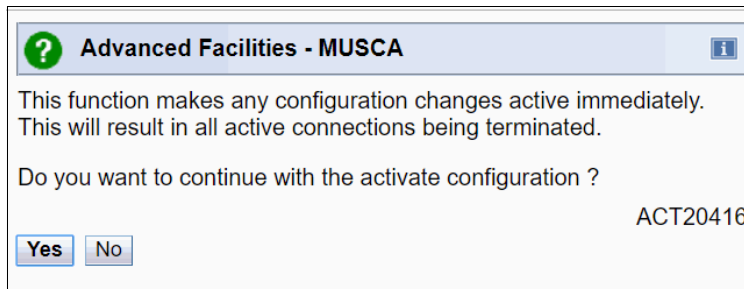

Figure 6-18 OSA/SF on the HMC: Confirm activation
14. The confirmation window that is shown in Figure 6-18 opens. Click **Yes** to continue.